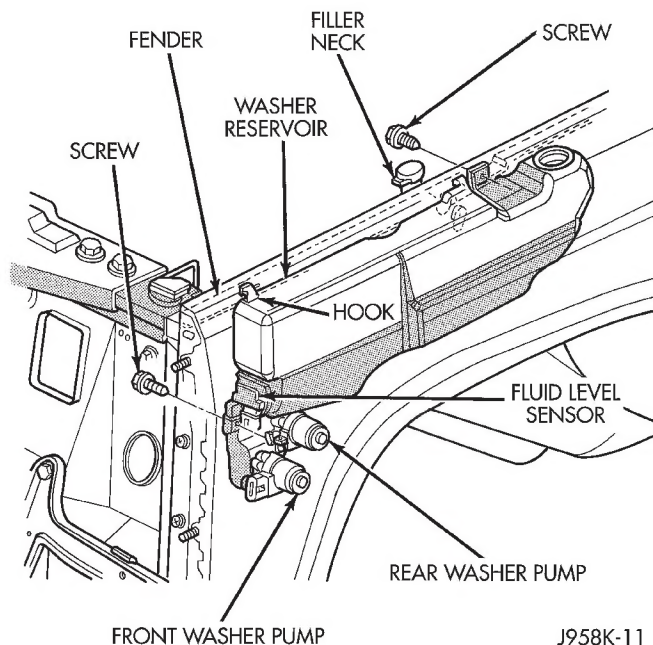

Fig. 17 Washer Reservoir and Pumps (RHD)
(2) Reservoir filler neck is held in reservoir by a grommet. Remove reservoir filler neck (Fig. 17) by pulling sharply away from reservoir.
(3) Remove 2 reservoir mounting screws.
(4) Raise vehicle on hoist and remove left front inner wheelhouse splash shield.
(5) Disconnect hose(s) from washer pump(s) and drain solvent from reservoir into a clean container for re-use.
(6) Disconnect wiring from pump(s) and fluid level sensor (if equipped).
(7) Remove washer pumps from reservoir by pulling out of grommets.
(8) To remove reservoir, slide slightly towards rear of vehicle to release hook (Fig. 17) from inner fender slot. Then lower front of reservoir and slide unit forward to remove.